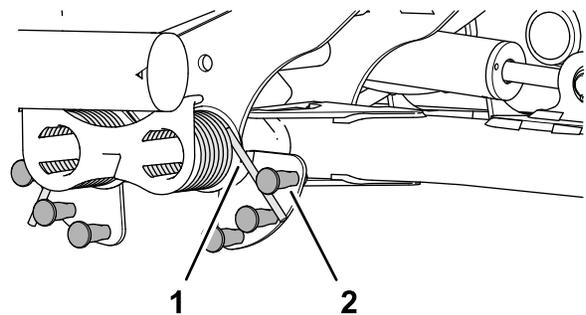

Figure 54
- Insert the long end of the counterbalance spring into a tube or similar object, and pivot the spring around the shouldered stud to the desired position (Figure 54).